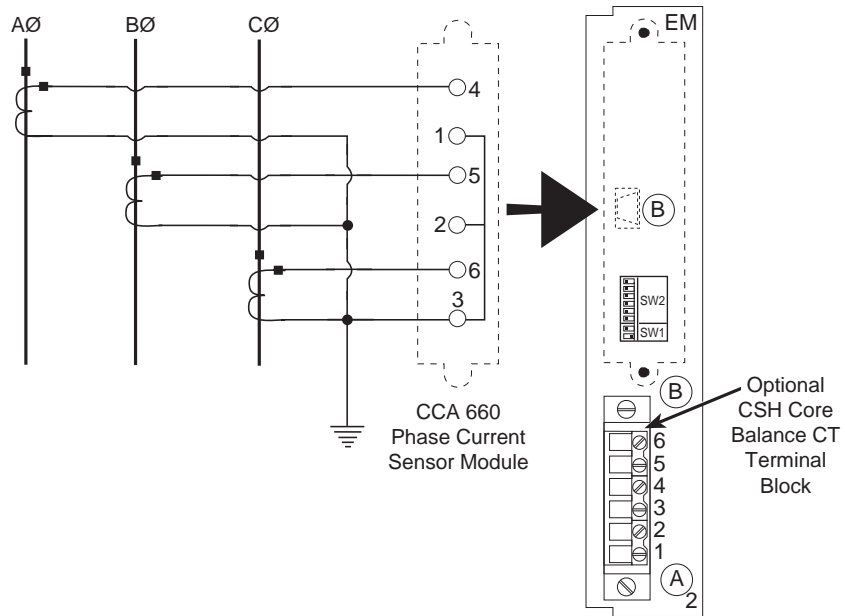

Figure 24: CCA 660 wiring example (for 5 A CTs with internal summation for ground fault)
Figure 24 below illustrates wiring connections for card 2 of the digital relay. (In the example shown, the DIP switches are set for 5 A CTs and internal summation for ground fault.) Card 2 wiring requires that the CTs be wired to the CCA 660 phase current sensor module, which then plugs into the DB-9 male connector on terminal B, card 2. Phase current sensor module wiring is explained in more detail below.
The current transformer (1 A or 5 A) secondary leads connect to the CCA 660 phase current sensor module, which plugs into card 2 (figure 24). This connector contains three core balance CT primary crossing adapters to ensure impedance matching and isolation between the 1 A or 5 A circuits and the digital relay.
4. Using the phase current sensor module, connect the phases as follows (figure 24 and 25):